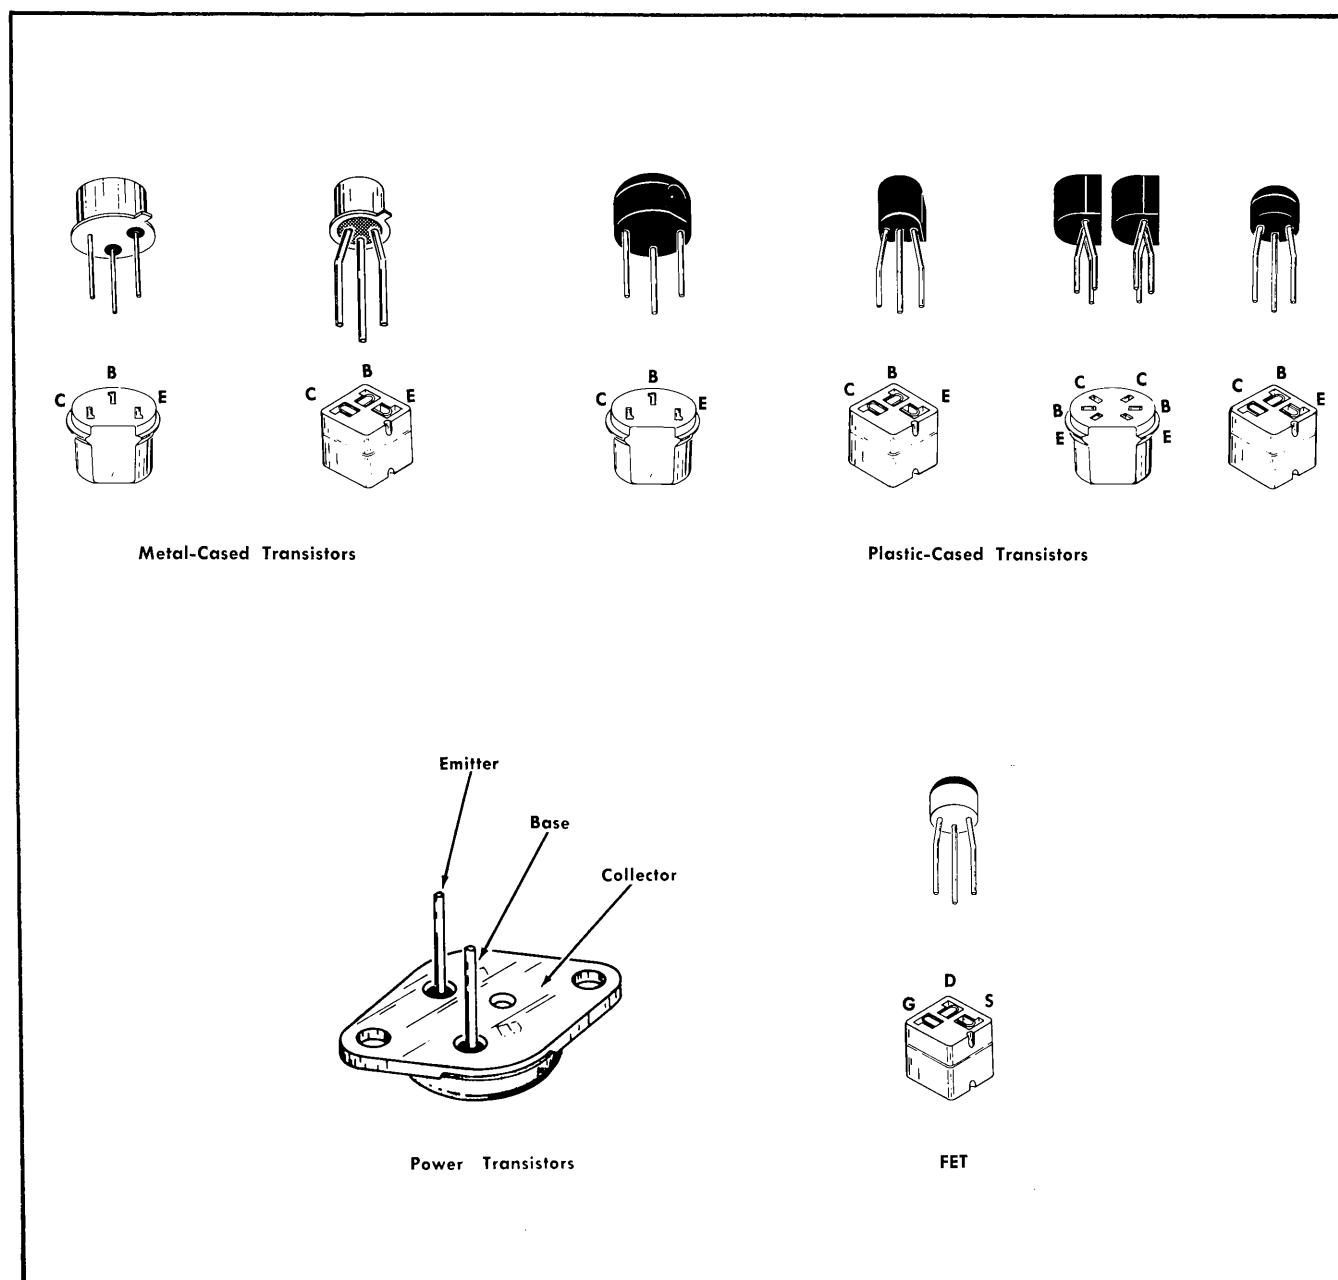

Fig. 4-2. Transistor electrode configuration data.
A. TRANSISTORS. The best check of transistor operation is actual performance under operating conditions. If a transistor is suspected of being defective it can best be checked by substituting a new component or one which has been checked previously. However, be sure that circuit conditions are not such that a replacement transistor might also be damaged. If substitute transistors are not available, use a dynamic tester (such as Tektronix Type 575). Static type testers may be used, but since they do not check operation under simulated operating conditions, some defects may go unnoticed. Fig. 4-2 shows transistor base pin and socket arrangements. Be sure power is off before attempting to remove or replace any transistor.